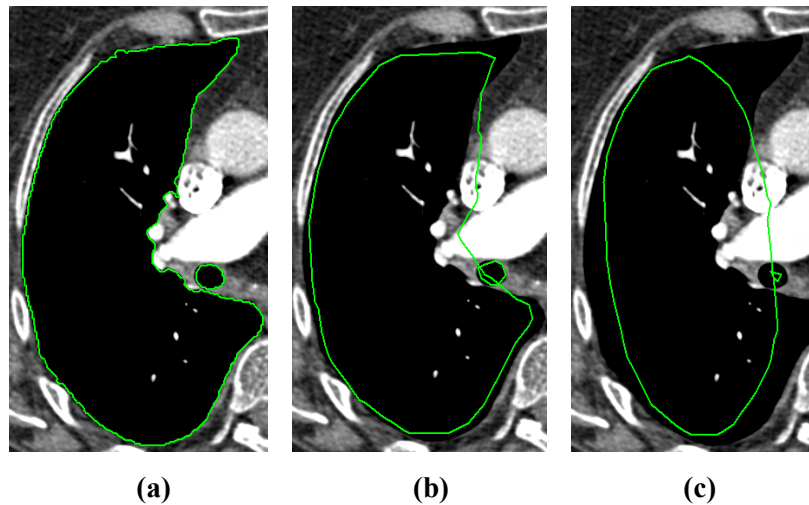

Figure 254 – (a) Source ROI, (b) smoothen ROI (applied once), (c) smoothen ROI (applied 5 times)
4. Click the **Apply** button as many times as necessary to achieve the desired setting. The result is immediately displayed in the current view (see Figure 254).